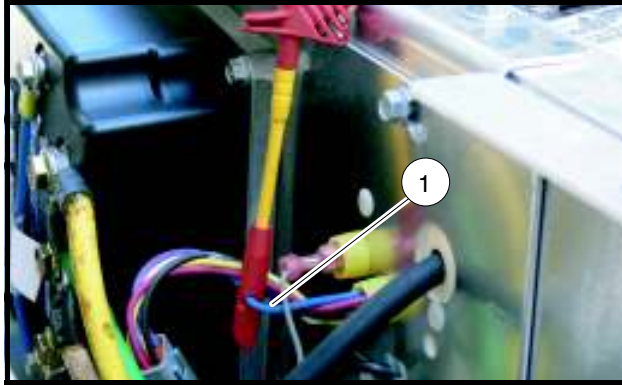
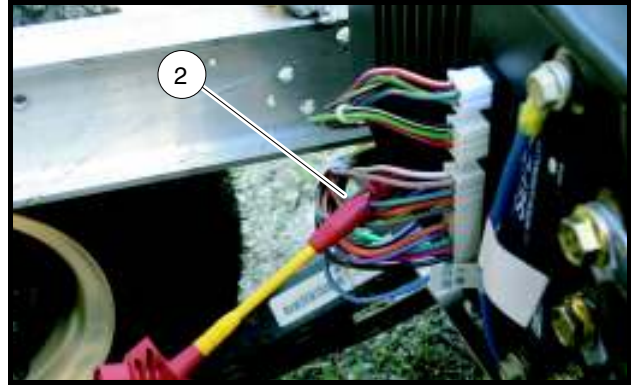

Figure 11-8 Test Blue OBC Wire (+)
Figure 11-9 Test Light Blue 18-Gauge Wire at 24-pin Connector (+)
2. Set a multimeter to 200 volts DC. Place black (–) probe on battery no. 8 negative post and red (+) probe (with insulation-piercing probe) on the blue onboard computer wire (1) at a point between the OBC and the six-pin connector (**Figure 11-8**). The reading should be approximately 40-43 volts. If the reading is not 40-43 volts, proceed to step 4. If the reading is 40-43 volts, proceed to Test Procedure 3 – Solenoid Activating Coil on page 11-17.
3. On the other side of the six-pin connector, the blue onboard computer wire (1) changes to a light blue 18-gauge wire. Place insulation-piercing probe on the light blue 18-gauge wire at a point between OBC six-pin connector and main wire harness. If reading is not 40-43 volts, check the wire terminal connectors inside the six-pin connector. Make sure pins are properly aligned inside housing. Make sure wire colors match and are connected to the correct terminals.
4. Place insulation-piercing probe on the light blue 18-gauge wire (2) at a point between speed controller 24-pin connector and main wire harness (**Figure 11-9**). If reading is not 40-43 volts, check the wire terminal connectors inside the 24-pin connector or for possible broken wires. Make sure pins are properly aligned inside housing. Make sure wire colors match and are connected to the correct terminals.